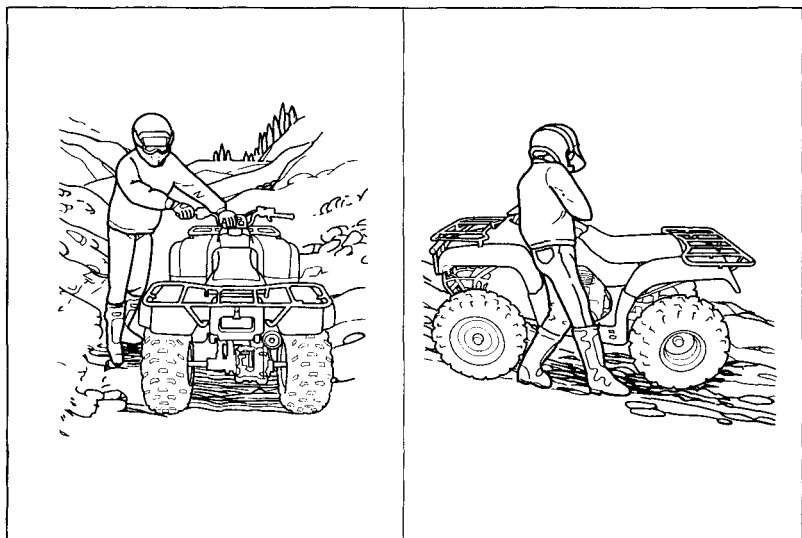

Fig. 3-14 Be sure your legs are clear of the wheels.
1. Stand with your body facing downhill, beside the vehicle so you can reach the rear brake lever with your right hand (see Figure 3-14.)